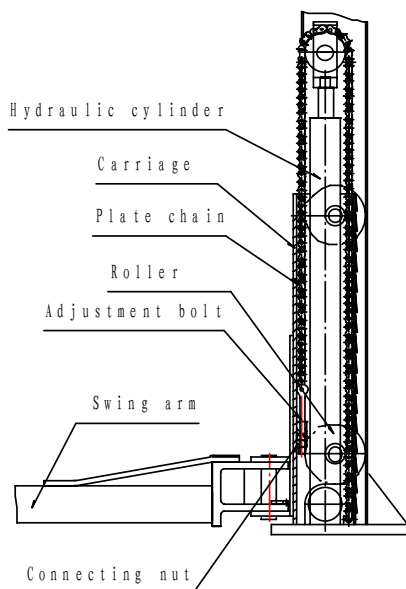

Fig. 8
- Check to see if the connection between hydraulic cylinder and carriage is proper, if the connecting nut between the steel chain and carriage is loose or falling. Refer to Fig. 8.